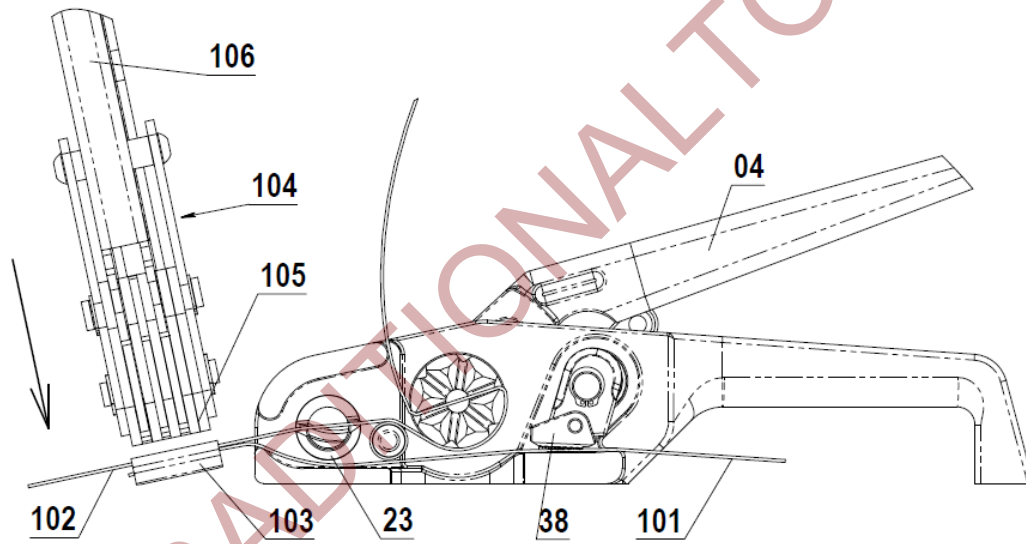

Fig. 5
4. Once satisfactory tension is achieved the strap is ready to be sealed. With the **Seal 103** securely in place use the appropriate **Sealer 104** to snap the **Seal 103**. Place the **Jaws 105** of the sealer on the middle of the **Seal 103** and press the **Handles 106** till they cannot be squeezed no further. Then unclenched the **Handles 106** and remove the **Sealer 104** as shown on Fig. 5